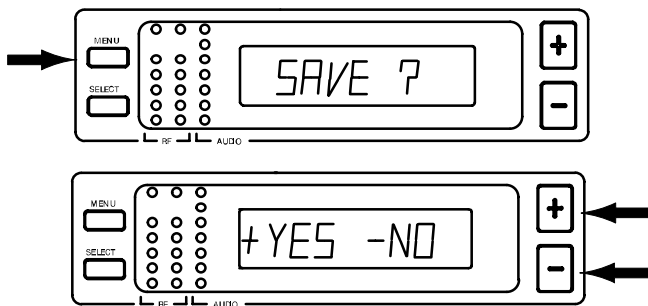
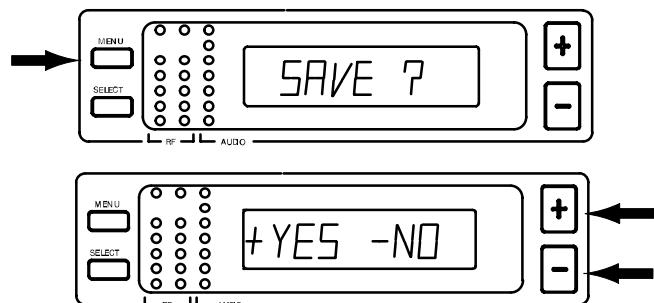

FIGURE 15
FIGURE 20
7. When the new Group/Channel has been completely entered, press the MENU button. "SAVE?" will appear on the display, followed by "+ YES - NO". Press the "+" button to save the new Group/Channel setting or press the "-" button to return to the original setting. See Figure 15.
5. Press the MENU button to enter the desired frequency, as shown in Figure 15. SAVE? will appear on the display, followed by "+ YES – NO". Press the "+" button to save the new frequency, or press the "-" button to return to the original setting. See Figure 20.